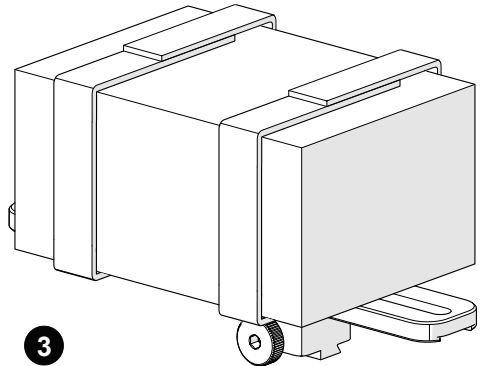

Fig. 73 - Mount bracket on a frame bar
3. Secure the preamp to the bracket attaching each side of the velcro (Fig. 73).